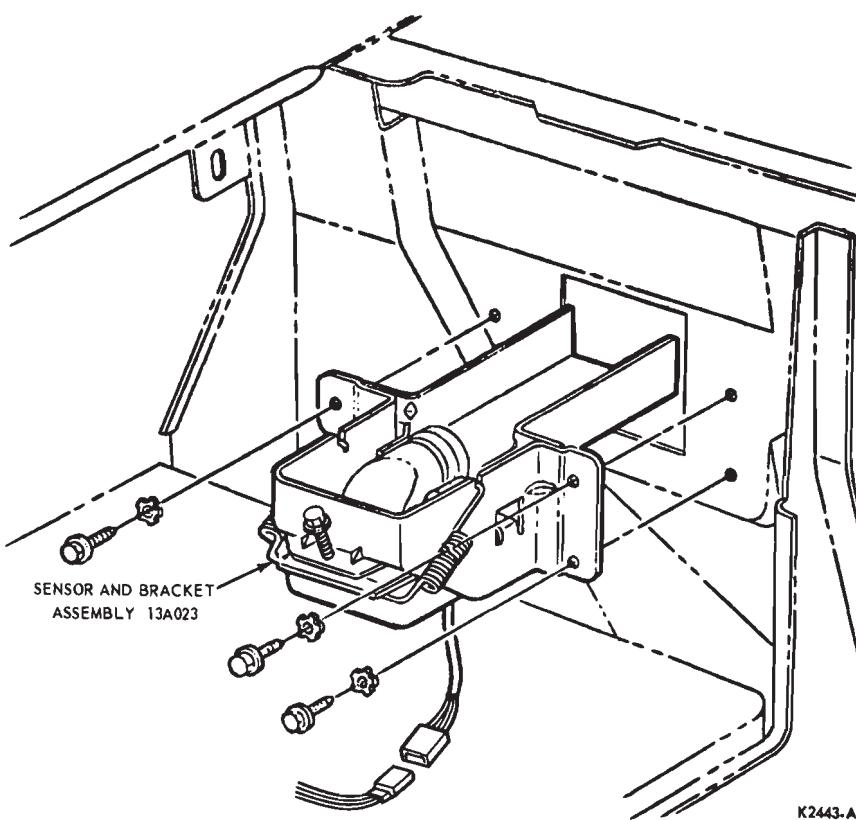

FIG. 6—Sensor-Amplifier Installation—Lincoln Continental
2. Disconnect the harness at the rear of the sensor-amplifier unit (Fig. 6). Do not pull on the cable sheathing, otherwise the leads could be damaged.
1. Position the sensor-amplifier and mounting bracket assembly into the opening on the left side of the radiator support (Fig. 6).